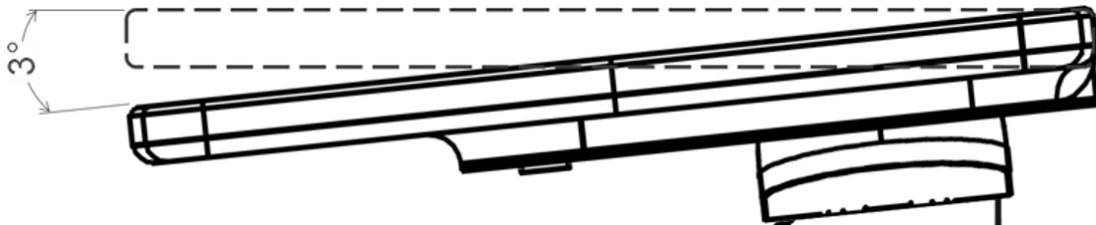

Figure 18: Tilting the ODU forward to 3-degrees
7. The stanchion is adjustable and allows for pivoting around the lower bolts. These bolts were installed first in step 5 when connecting to the mount and left loose enough to allow pivoting. The curved slot in the center of the stanchion on either side controls the angle of the stanchion, which can be locked in place using the proper bolts. The ODU requires 3-degrees of forward tilt where forward is the direction away from the bridge along the short side of the panels (shown in Figure 18). An inclinometer must be used to ensure the ODU is at the desired 3-degree forward tilt, after which all four bolts may be tightened to their required torque values.